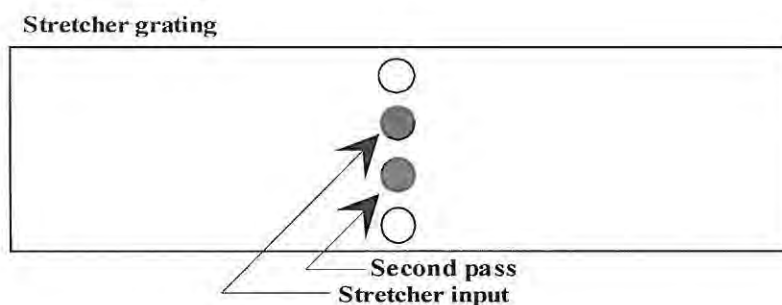

**Fig. 3.5** Two 3/32 screws that lock the retain rings behind the mirror mount are used to adjust the grating rotation in the vertical plane.
7. Lock the rotation set screw once the reflection is near the iris. If the retro reflection appears not to be at the same height as the iris center, loosen the two 3/32 screws that contain the retainer rings (see Fig. 3.5) behind the mirror mount just enough to allow coarse rotation of the entire grating mount. Using a 1/16 ball driver, loosen slightly the set screw holding the grating holder within the mirror mount aperture. With one hand, rotate the grating/holder so that the first order retro reflection appears to be propagating back to the iris center beam height.